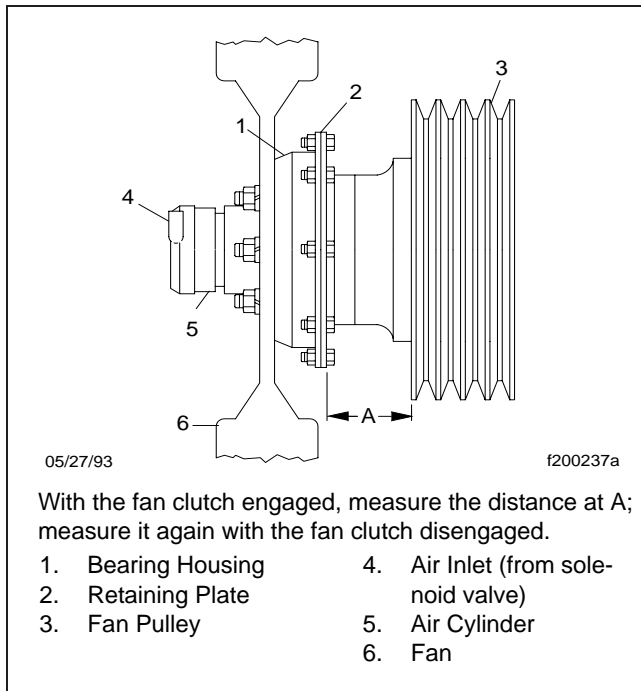

Fig 1, Kysor K22RA Fan Clutch Lining Wear Checking
2. Measure the distance from the back surface of the fan clutch retaining plate to the forward-most edge of the fan belt pulley. See Fig. 1, Ref. A.